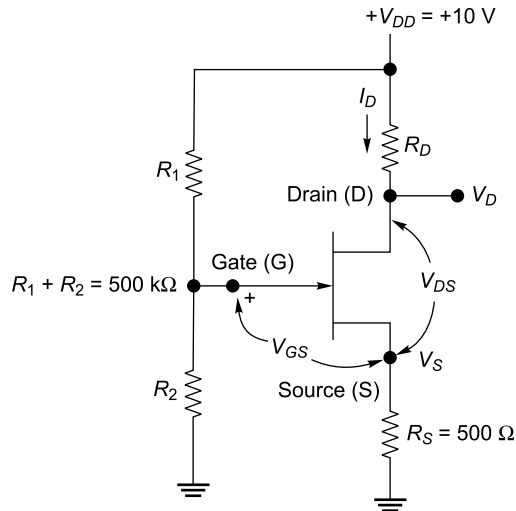

Fig. 1.71
1.11 Figure 1.71 shows a voltage divider biasing circuit of JFET. $I_{DSS} = 12 \text{ mA}$, $V_P = -5 \text{ V}$, $R_1 + R_2 = 500 \text{ k}\Omega$, $I_D = 6 \text{ mA}$, $R_S = 500 \Omega$ and $V_{DS} = 5 \text{ V}$, compute the value of R_1 , R_2 and R_D . Verify whether the JFET operates in saturation region. Assume $V_{DD} = 10 \text{ V}$.